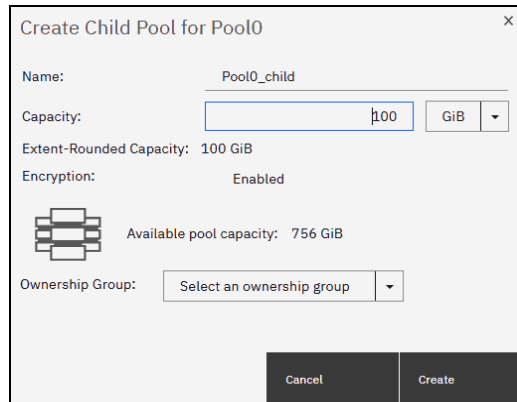

Figure 5-21 Creating a child pool type `child_thick`
- Figure 5-21 shows the Create Child Pool for Pool0 dialog box. For pool type `child_thick`, enter the pool capacity.